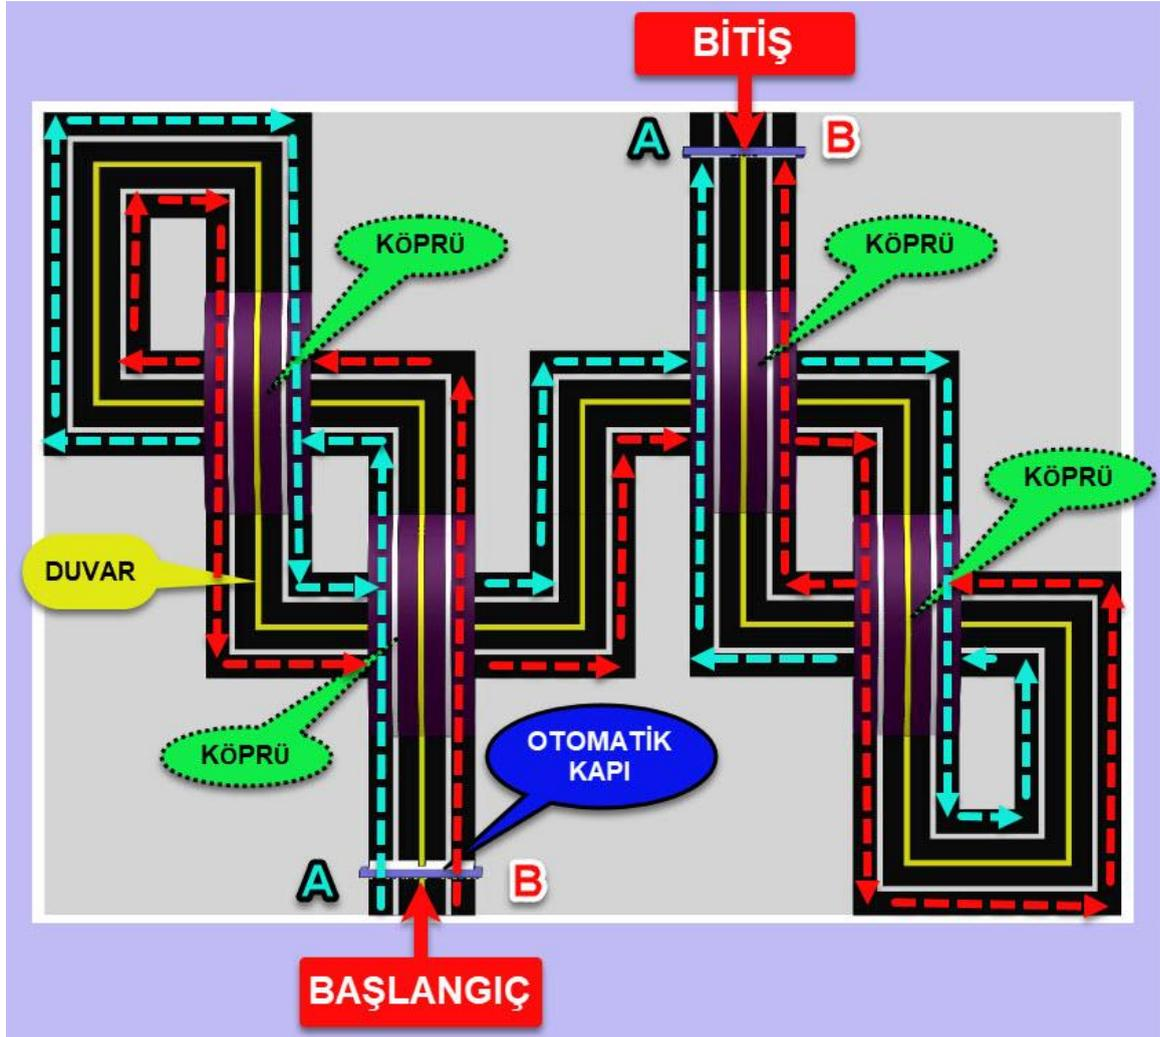

Figure 6. Movement directions of the robots
7. Robots must move along the track in accordance with the direction of movement shown in Figure 6.